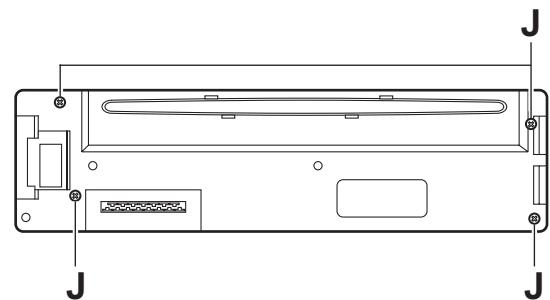

Fig.8
3.1.8 Removing the switch board (See Figs.8 to 10)
- (1) Remove the four screws **J** on the back side of the front panel assembly. (See Fig.8)